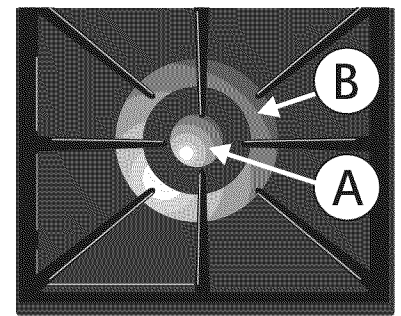

Figure 1
5. When the burner is lit, continue to turn the control knob **counterclockwise** between the HI position and the MED position to adjust to the desired flame size for both burners together (figure 1). **DO NOT** cook with any of the surface control knobs in the LITE position (The electronic ignitor will continue to spark if the knob is left in the LITE position).
Simmering Operation (Figure 1; Zone A)